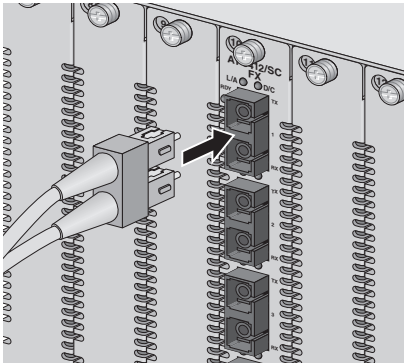
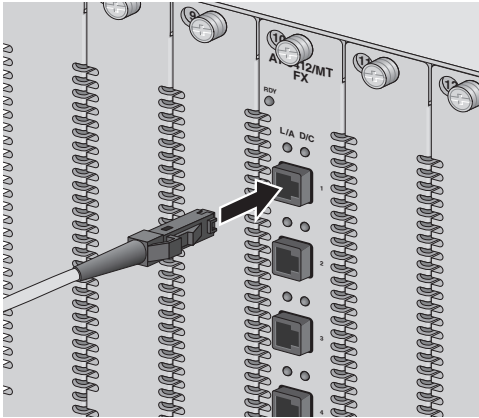

Figure 8. Connecting Fiber Optic Cable to an AT-8412/SC FX Line Card
Figure 9. Connecting Fiber Optic Cable to an AT-8412/MT FX Line Card
11. Connect a fiber optic cable to your AT-8412 line card. See Figure 8 below for an illustration of how to connect a fiber optic cable to the AT-8412/SC FX. Or, see Figure 9 on page 15 for an illustration of how to connect a fiber optic cable to an AT-8412/MT FX.